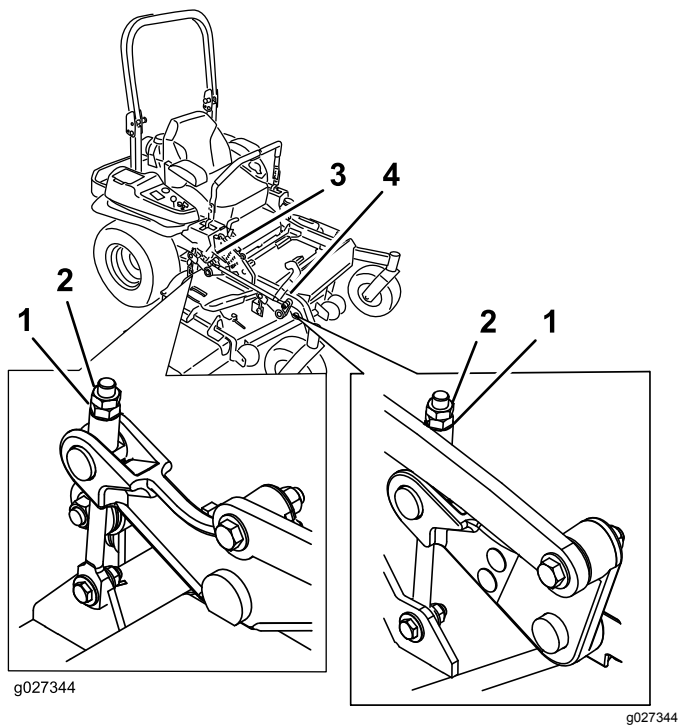

Figure 92
10. Fine-tune the adjustment nut on the front deck lift assembly by turning it (Figure 92).
16. Fine tune the screw adjuster by turning it to get 8.3 mm (3-1/4 inches) height (Figure 92).